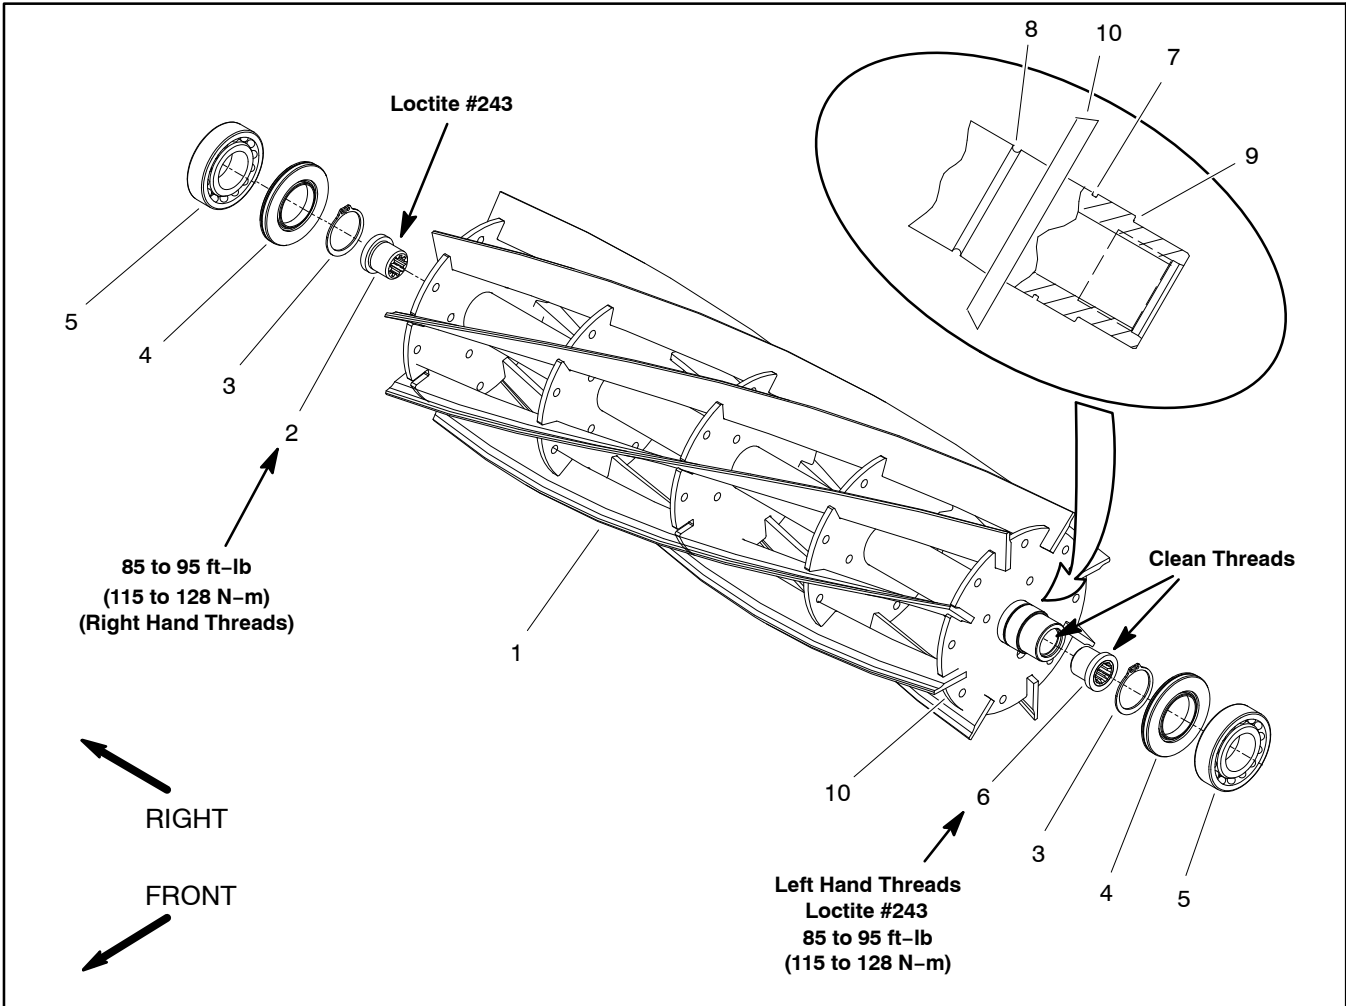

Figure 36
### Inspection of Cutting Reel (Fig. 36)
- A. The threaded inserts are installed with thread locking compound (Loctite #243 or equivalent). One insert has LH threads and the other RH threads. The insert with LH threads has an identification groove on the flange face. A groove on the reel shaft identifies the reel end that has LH threads (see illustration in Fig. 36).
#### **Assembly of Cutting Reel (Fig. 36)**